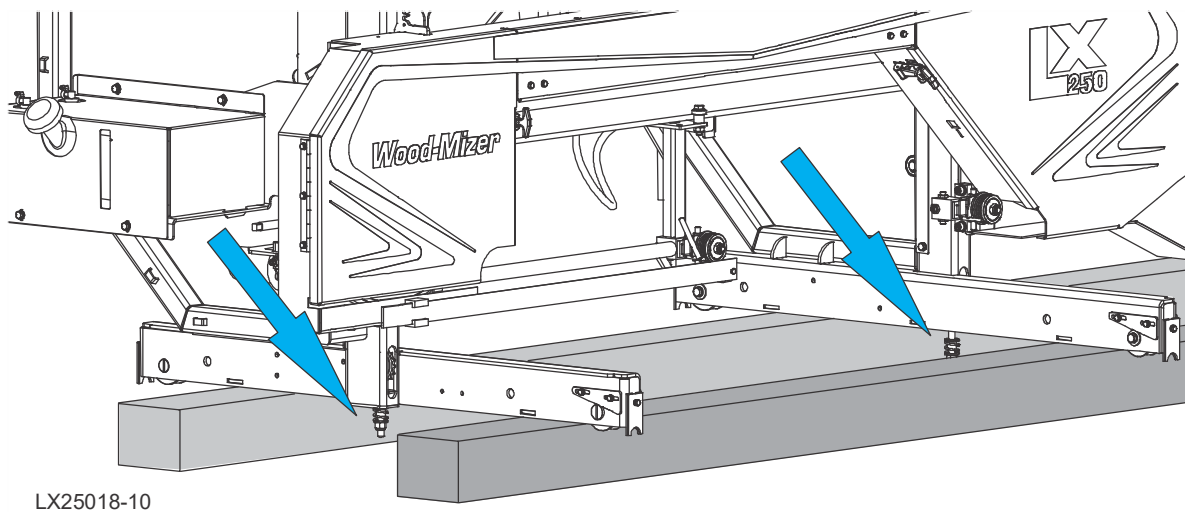

FIG. 3-2
4. Set the mast on the blocks called out in Section 3.1 Tools required. See Figure 3-2.
CAUTION! Use care to protect the adjustment screws at the bottom of the mast. See Figure 3-2.
See Figure 3-2.